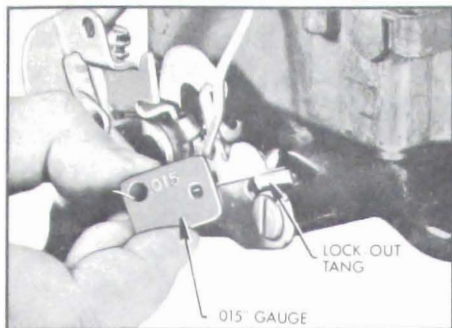

Figure 3-59—Checking Secondary Lock-Out Adjustment
5. Secondary Lock-Out Adjustment. Fully close choke valve so that secondary throttle lock-out tang is in lock-out step of fast idle cam. Check clearance between tang and step, using .015" Gauge. See Figure 3-59.